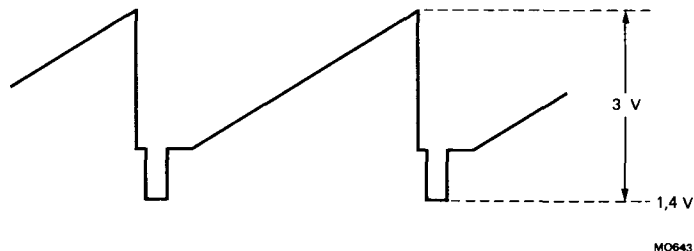

Fig. 2 Video output signal.
7. Signal with negative-going sync with top white being 10% of the top sync amplitude (Fig. 2).